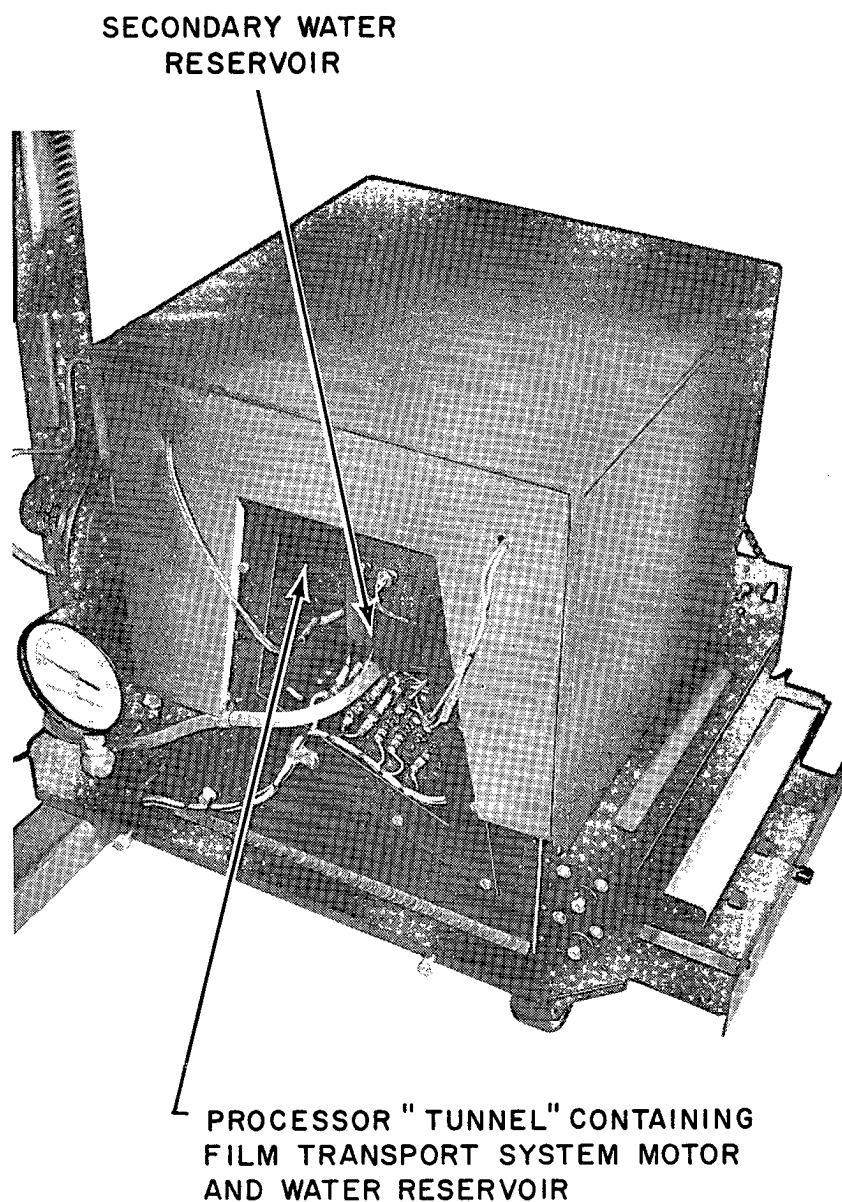
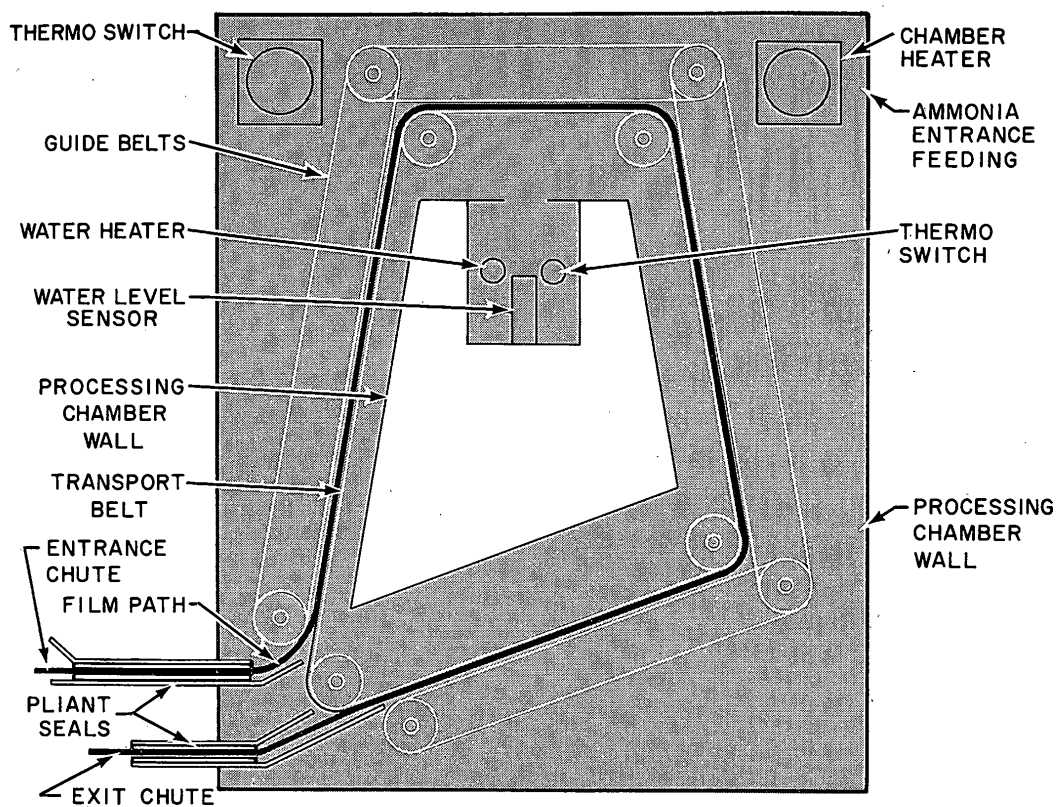
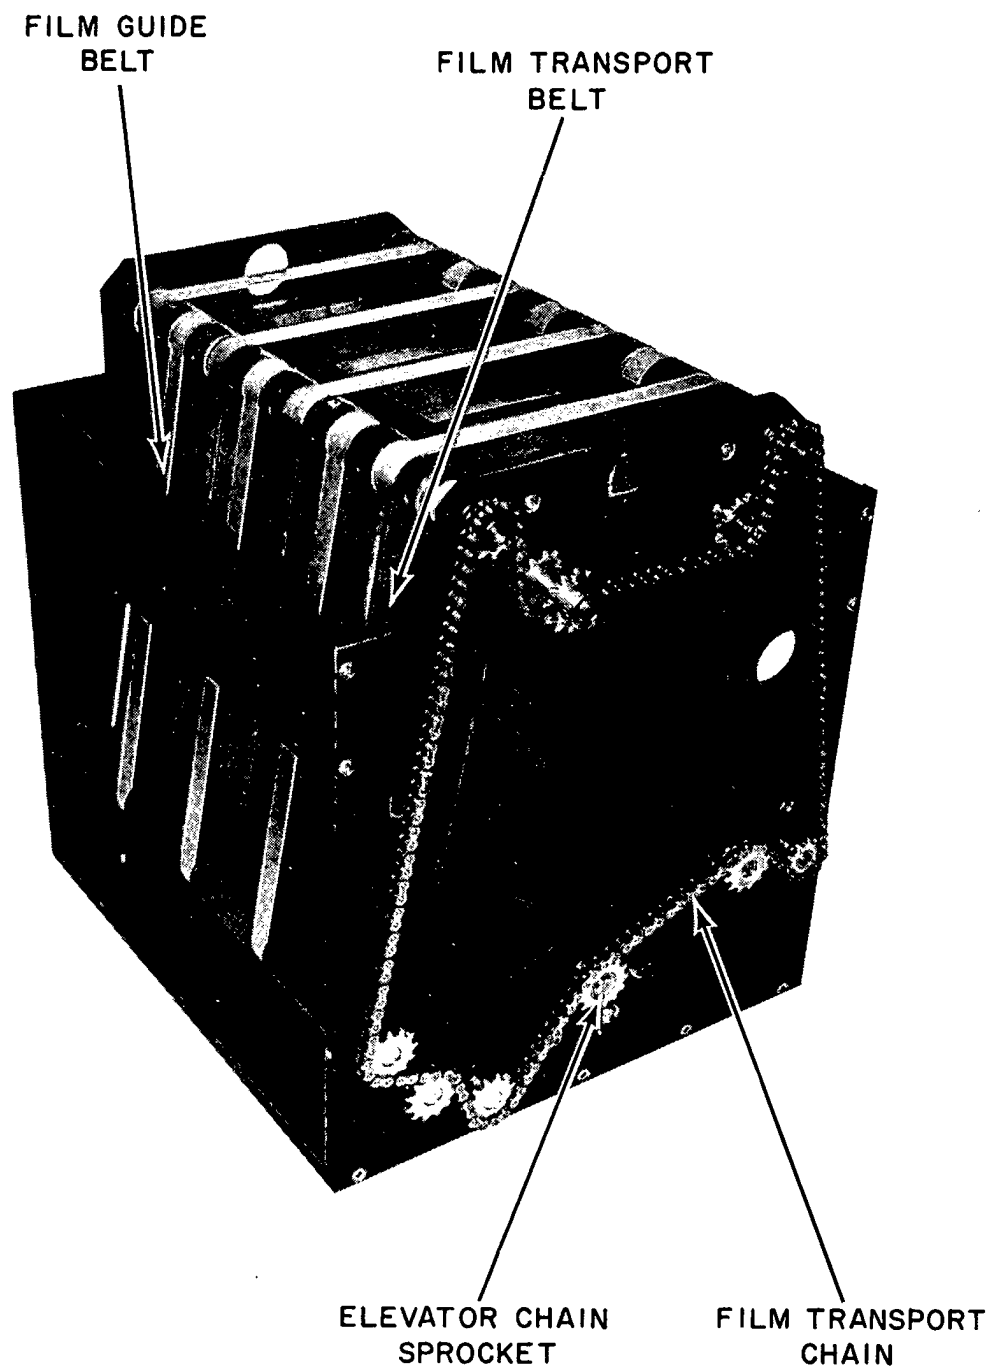
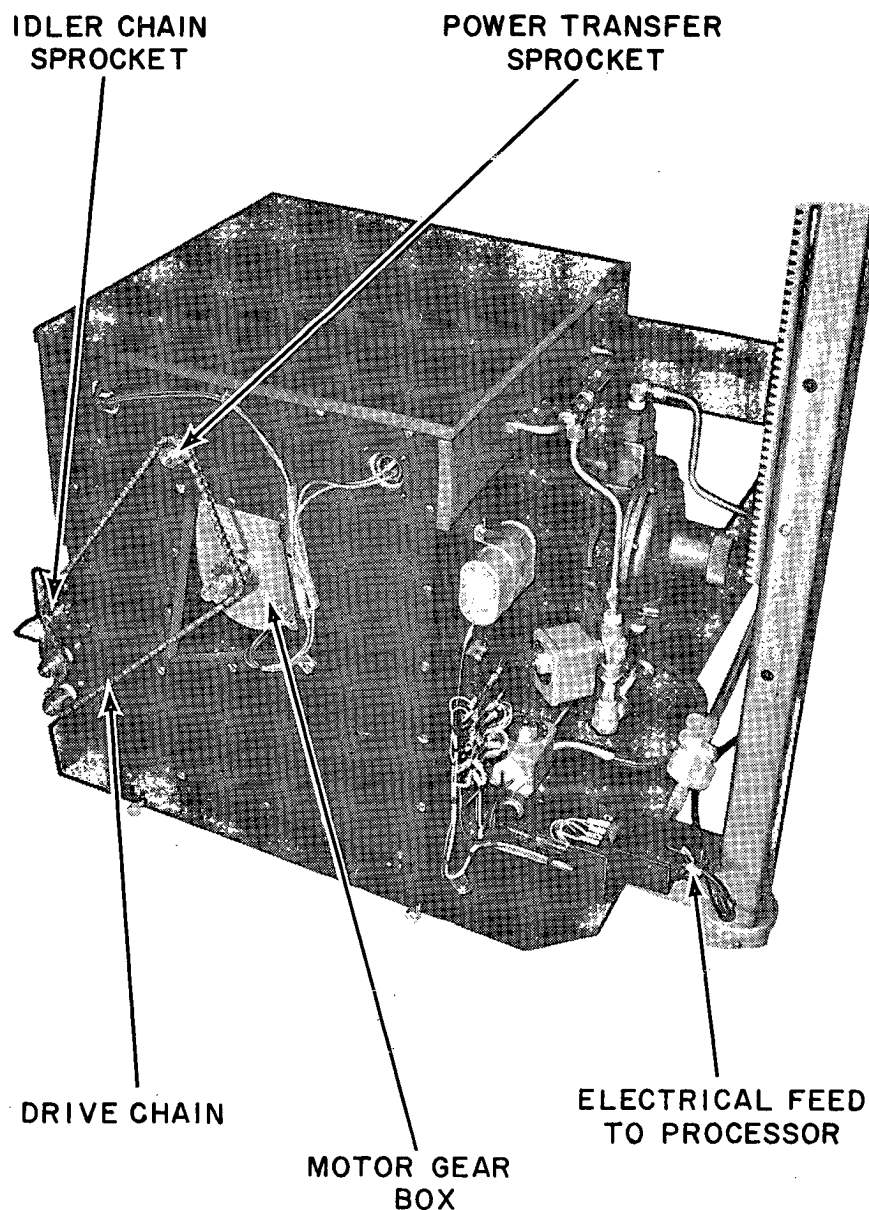

Figure 4.4 SIDE VIEW OF PROCESSOR, SHROUD REMOVED
Figure 4.8 FILM PATH
Figure 4.9 FILM TRANSPORT COMPONENTS
Figure 4.10 RIGHT END VIEW OF PROCESSOR, SHROUD REMOVED
- C. Secondary Water Reservoir (Figure 4.4) - Located within processor "tunnel". Contains float valve and heating element.
The film path through the Processor and other internal components are illustrated in Figure 4.8. The film transport and guide belts, and the film transport chain are photographically illustrated in Figure 4.9. The drive chain and motor gear box are illustrated in Figure 4.10. The motor is mounted within the Processor "tunnel" (Figure 4.4).
4.3.3.2 Processor Chain Tightening. To tighten (or loosen) outer drive chain, adjust the upper chain sprocket of the three sprockets located at the forward or film shute face of the Processor (Figure 4.10). To tighten (or loosen) the inner film transport chain, adjust the idler sprocket indicated in Figure 4.9.
5. Unplug electrical feed at rear of Processor (Figure 4.10).
4.3.4.4 Removal of Film Shute. To remove film shute assembly, unloosen idler chain sprocket (Figure 4.10) and remove drive chain. Remove 16 screws from front of shute and pull shute forward and off.
2. Support shaft of power transfer sprocket (Figure 4.10) from underneath and remove pin with 3/32" drift punch.
5. Remove screws (29) from plate at right side of assembly and remove plate.